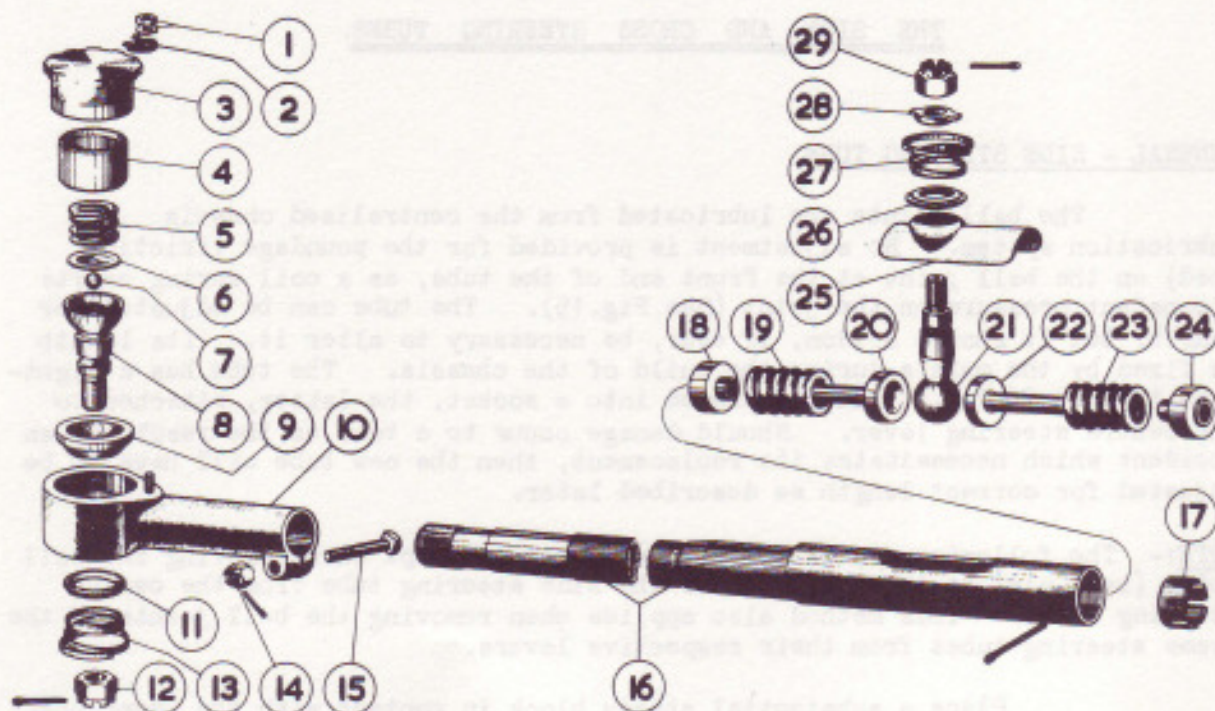

FIG. 14. "EXPLODED" VIEW OF SIDE STEERING TUBE.
- (iii) Remove split pin and nut (12, Fig.14) from the ball pin at the front end of tube. Carefully remove ball pin (8) from the centre steering lever and collect the pressure spring (13) and sealing disc (11).
Notation for Fig.14.
- (e) After removal of side steering tube from the pendulum lever, collect the pressure spring (27, Fig.14), sealing disc (26), and mud excluder (25).
end of each stem of the ball pads (20 and 22 Fig.14), and the inner end of the tube and the inner face of the end nut. Secure end nut with a new split pin of the correct size.
- (1) With the mud excluder (25, Fig.14), sealing disc (26) and pressure spring (27) in position on the ball pin (21), enter the pin into the pendulum lever.
NOTE:- It is important that the mud excluder is placed the correct way round, i.e. with the longest plain portion pointing towards the rear end of the tube as shown in Fig.14.
- (i) With all parts (front and rear ball joints) assembled to the new tube, the front end cap nut (3, Fig.14) locked, and the rear end nut (17) securely split pinned, fit the tube (ball pin) to the pendulum lever as previously described.